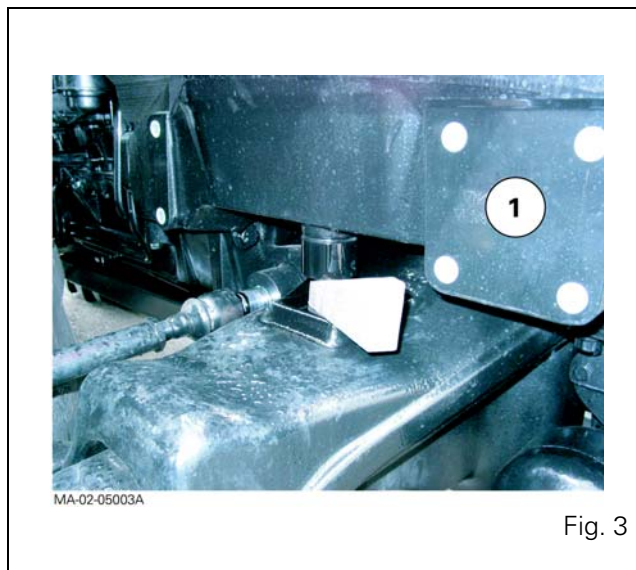

Fig. 3
22. Stop the front axle swinging (all versions) by sliding a suitable chock in at each side of the support (1) (Fig. 3).